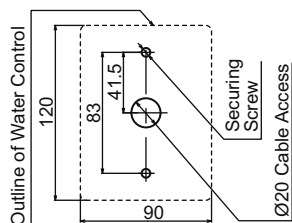

Fig. 1
2. Mark and drill 3 holes, locating the cable access as shown in (Fig. 1).